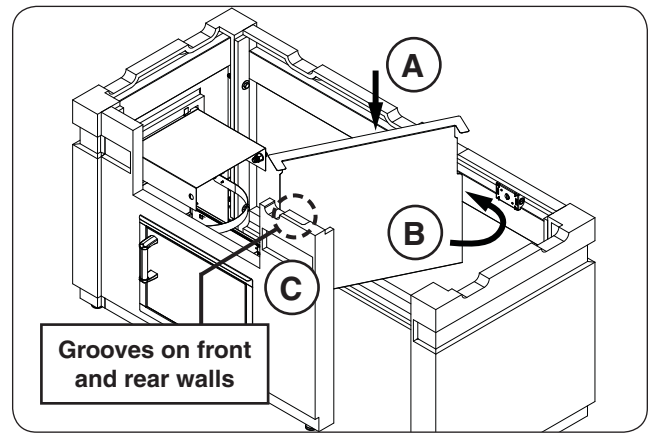

Fig. 13-1 Place heat shield (as applicable)
Place the heat shield as shown in Fig. 13-1. It will need to be inserted at an angle to clear the island (A). Then turn it (within the island slots) until it is perpendicular with the front and rear walls (B). Locate the heat shield in place by using the grooves found on the top of the front and rear walls (C).